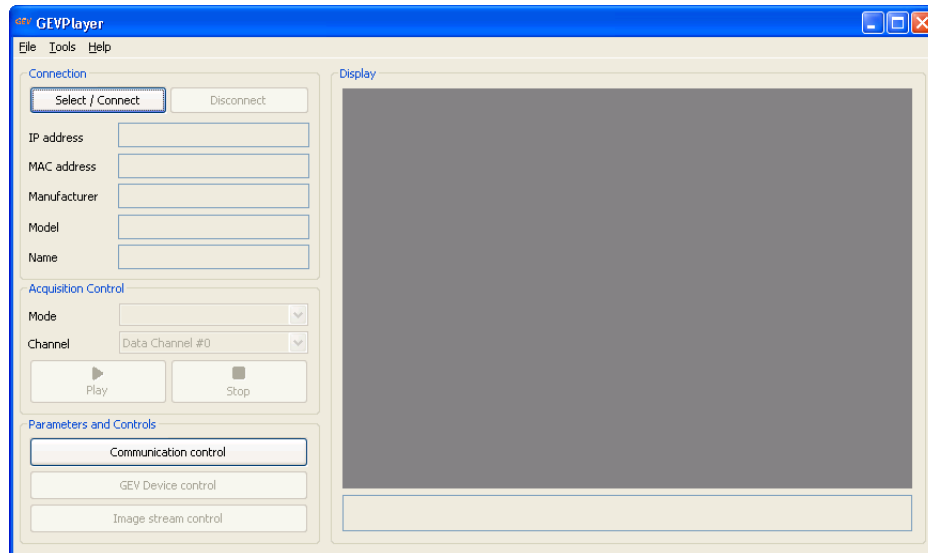

Figure 2.9: PF_GEVPlayer start screen
1. Open the PF_GEVPlayer software (Start -> All Programs -> Photonfocus -> GigE_Tools -> PF_GEVPlayer) which is a GUI to set camera parameters and to see the grabbed images (see Fig. 2.9).